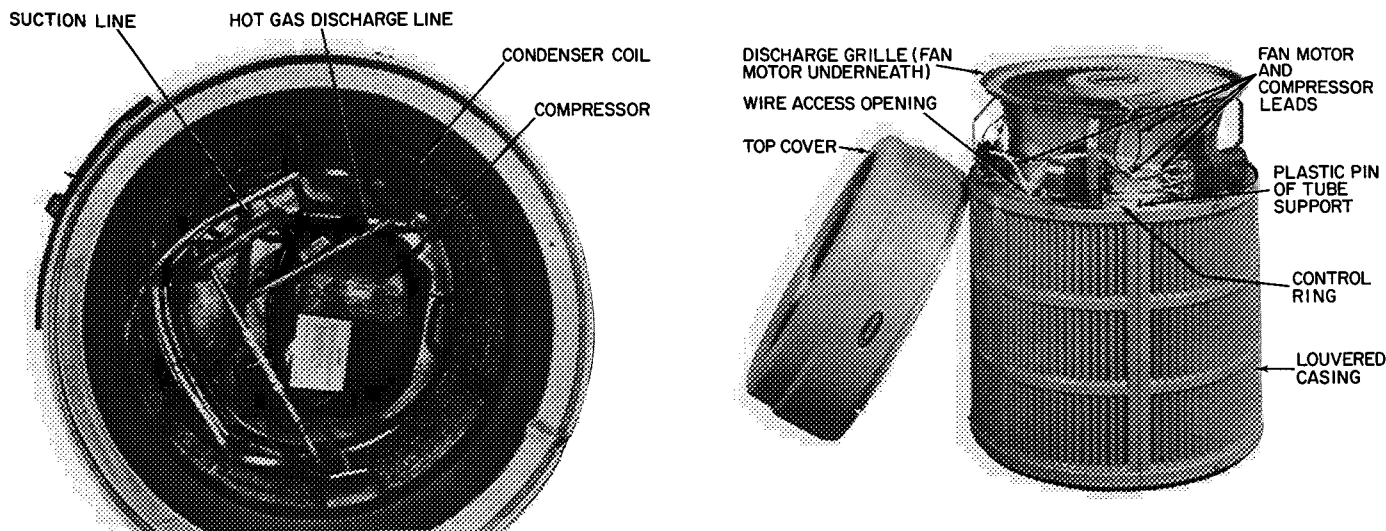

Fig. 7 — 38EB Component Locations
Compressor Removal — See Table 8 for compressor information and Fig. 7 for component location. Shut off power to unit. Remove refrigerant from unit using refrigerant removal methods described in Carrier Standard Service Techniques Manual, Chapter 1, Refrigerants. Be sure system pressure is 0 psig before attempting compressor removal.
3. Disconnect fan motor leads from control leads. See Fig. 7.